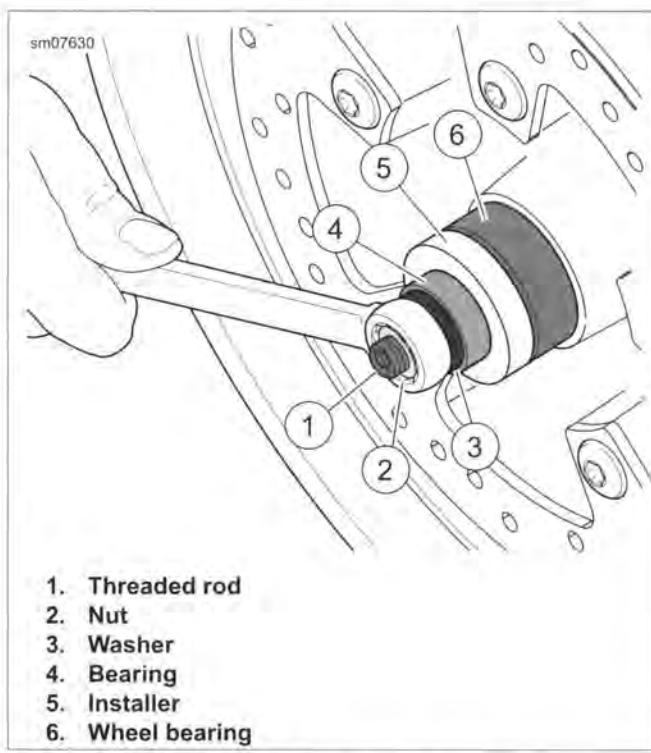

Figure 2-24. Installing Bearings
3. See Figure 2-24. Place the bearing on the rod.
- a. Standard bearing with the lettered side against installer (5).
- b. ABS bearing with red side inward and tan side against installer (5).
4. Place 1 INCH INSTALLER (Part No. HD-44060-8) (5), bearing (4), flat washer (3) and nut (2) onto rod.
5. Turn nut (2) until bearing is fully seated.